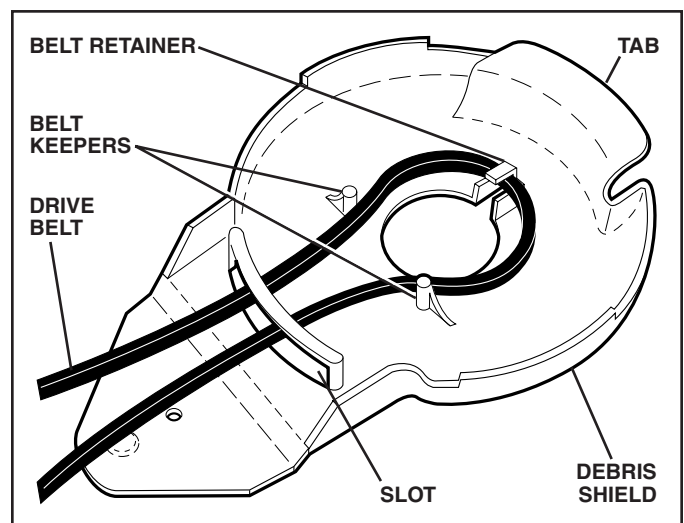

FIG. 21
## TO REPLACE DRIVE BELT (See Fig. 21)
1. Place new drive belt in the belt retainer of the debris shield. Be sure to route belt between belt keepers and through slot as shown (See Fig. 21).